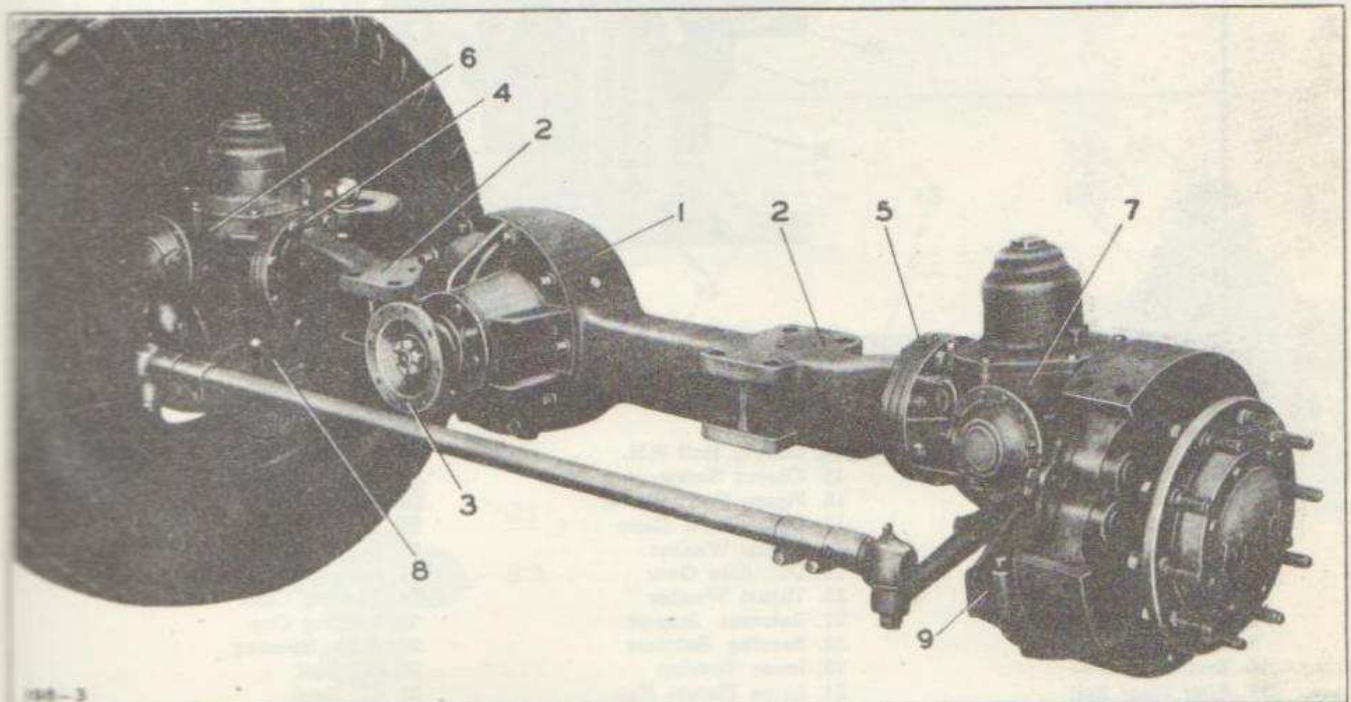

Fig. 4—Rear View of Complete Axle
As shown by Figure 4, the cross steering levers are attached at such a height that the tubular tie rod is protected by being above the bottom of the axle housing (1). The exceptional ground clearance of the axle housing and its complete protection of the tie rod is indicated by Figure 3, a front view in which the tie rod is entirely concealed by the axle housing. The height of the engine crankcase, at the point where the tie rod passes under it, permits the use of a straight tube having right and left hand threads on its opposite ends, for adjusting the toe-in of the wheels.